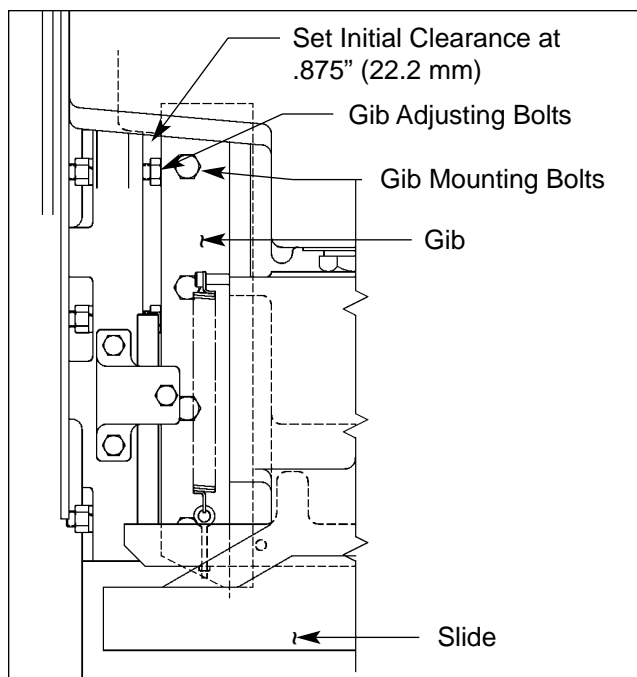

Figure 10F. Installing the slide.
4. Install the gibs on the press frame and into the slide gib ways. Tighten the gib mounting bolts finger tight, then tighten the gib adjusting bolts until the back sides of each gib are approximately .875" (22.2 mm) from the frame. (See Figure 10F.)
8. While an assistant maintains pressure on the slide, place a base mounted dial indicator between the slide face and bed (or bolster) and set it at the "0" reference mark. Now take readings near each of the four (4) corners of the slide.